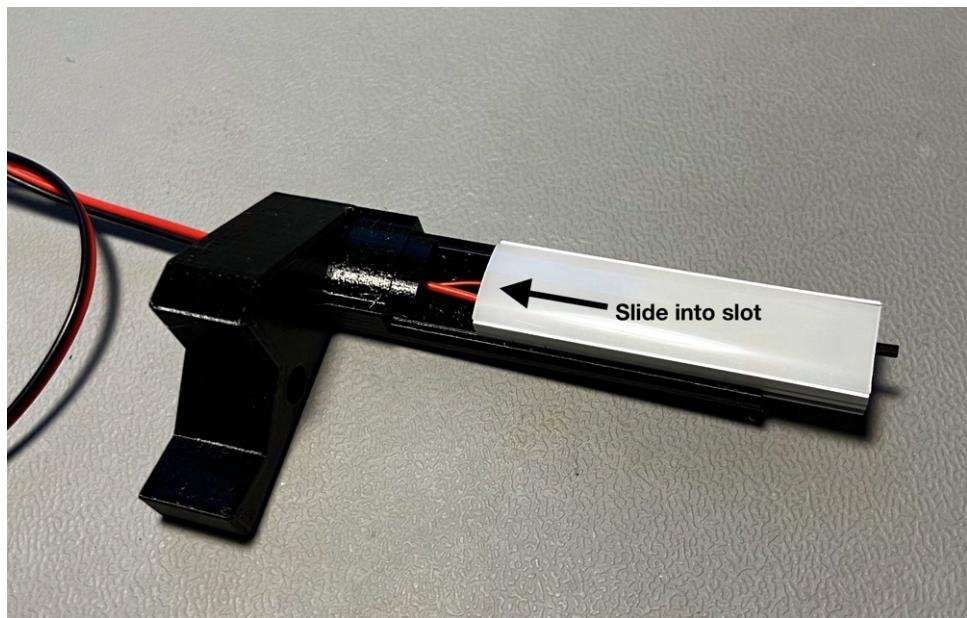

Figure 15: How to slide in the LED light into the 3D printed holder.
1. Start by sliding the wiring through the slot provided. Next, insert the LED light into the 3D printed holder, as illustrated in Figure 15. Slide it all the way in until it is flush with the end.